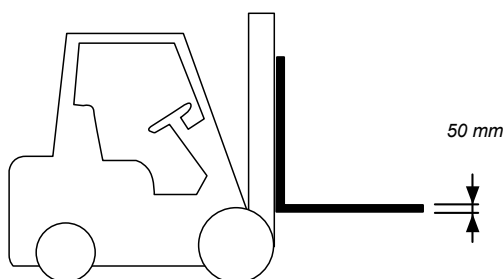

Fig.2 Ruukki packing and storage system does not allow to unload panels with forks thicker than 50 mm.
- The maximum length of the package that is to be unloaded with forklift cannot exceed 6.5 m for panels with PIR core and 7.5 m for panels with mineral wool core. There is also weight limit for mineral wool panels - it cannot exceed 2 t. Packages that don't meet the above mentioned conditions are to be unloaded with travelling crane or lift. Correct handling of package is shown in fig.2–8.